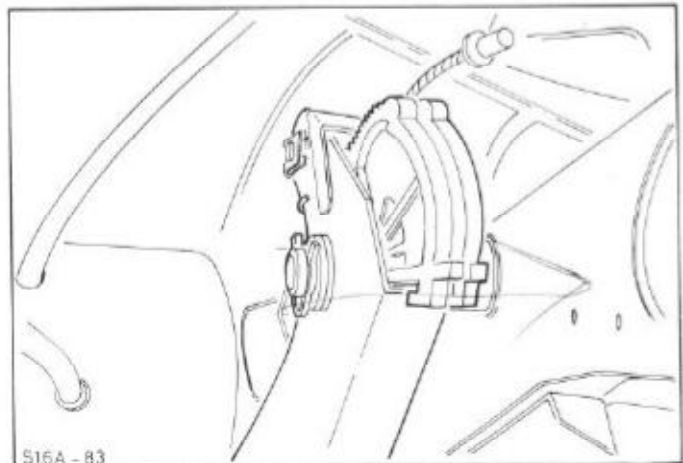

Fig.164. Withdraw clutch cable.
4. Unhook the clutch cable from the toothed segment of the automatic adjusting mechanism, Fig.164.